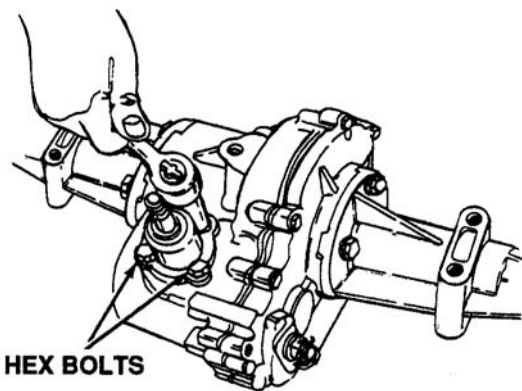

Figure 5-2. Location of Hex Bolts
1. Remove the input assembly by removing three hex bolts using a 7/16 inch wrench. See Figure 5-2.